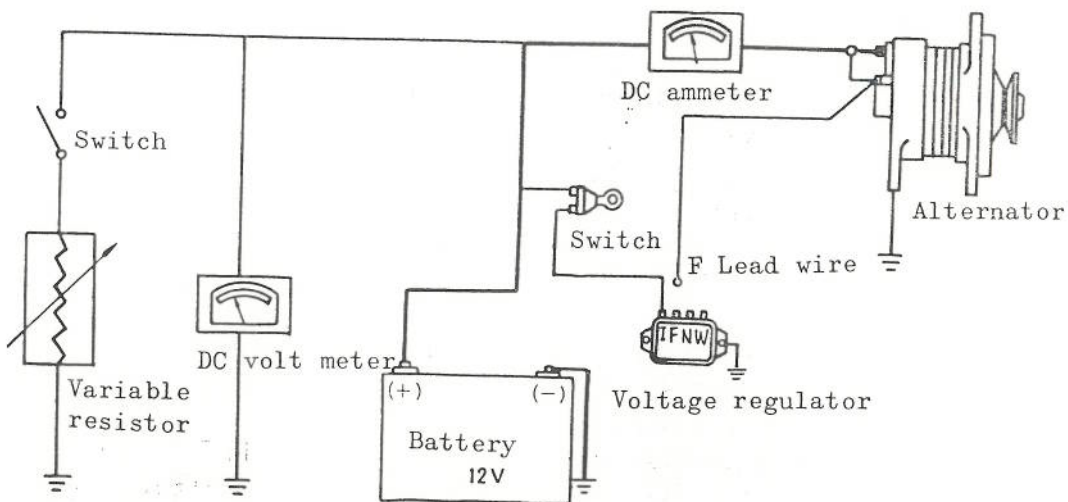

Fig. 10-119
- 1) Connect the volt meter, ammeter and variable resistor in the manner illustrated in Fig. 10-119.